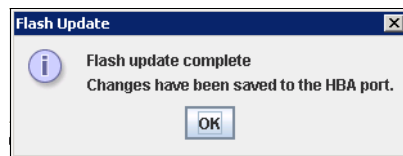

Figure 7-59 Flash Update completion
9. In the Flash Update window (Figure 7-59), click **OK**.